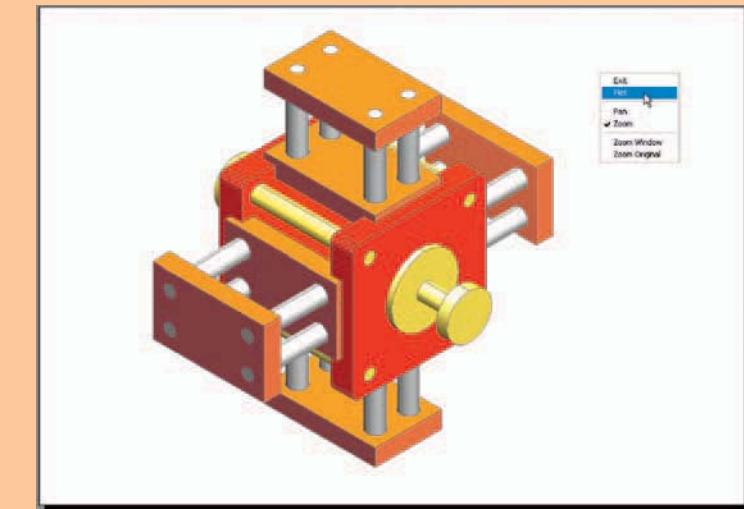

Fig. 15.45 First example – Print Preview – printing a single copy
First example – printing (Fig. 15.45)
3. *Click* the **Preview** button of the dialog and if the preview is OK (Fig. 15.45), *right-click* and in the right-click menu which appears, *click* **Plot**. The drawing plots, producing the necessary “hardcopy”.